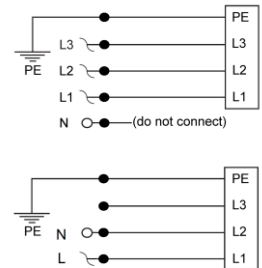

fig 4 - 2
- For a single-phase grid, connect Null and Line between L1 and L2, see fig. 4 - 2.
- These terminals are located at the rear side, marked as CON B1 (PLUS) and CON B2 (MINUS), see fig. 4 - 1.